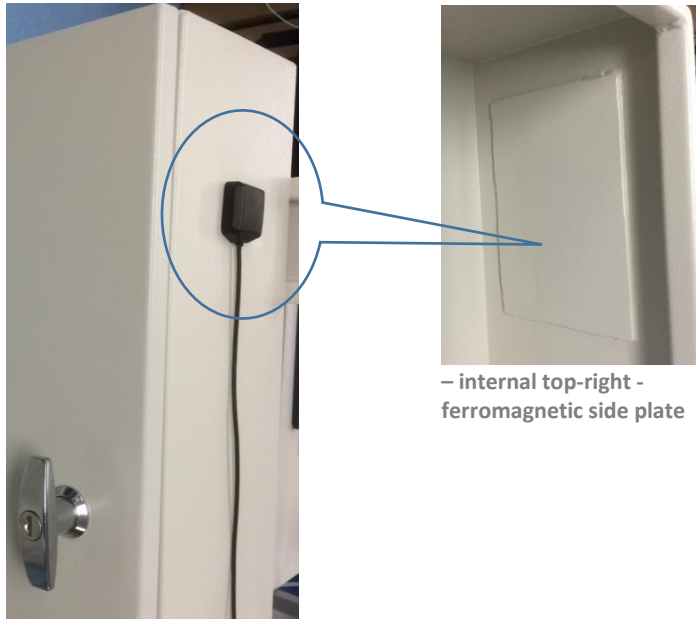

Figure 5-35: Cabinet - external top right - GPS antenna
- If the product cabinet is installed at a location with a clear view of the sky, the antenna can be installed on the exterior of the cabinet. A ferromagnetic plate is welded towards the top-right interior corner of the cabinet to allow the GPS antenna to be magnetically mounted externally at this position as shown in Figure 5-35.